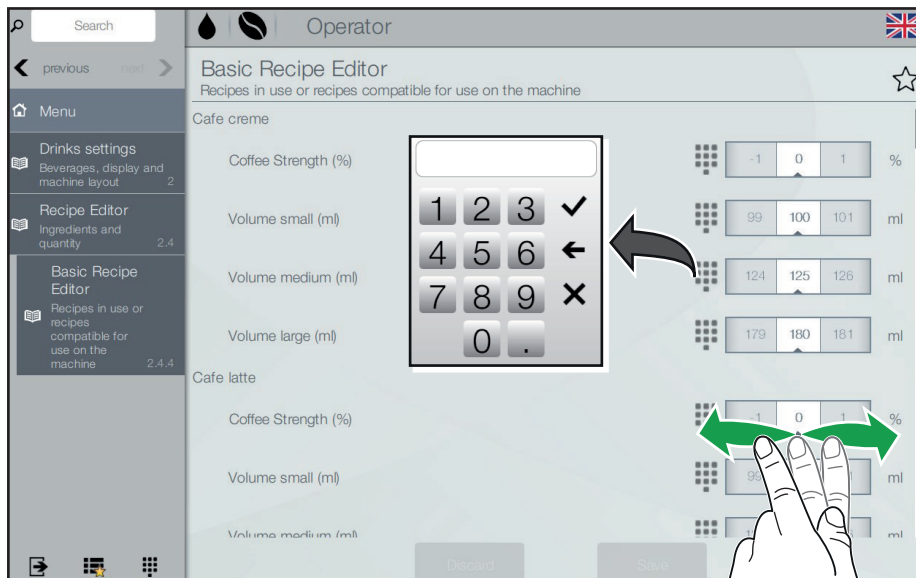

Fig. 6.9 - Recipe Editor (Volume / Strength)
- Set the requested values by keypad or value picker (fig. 6.9).